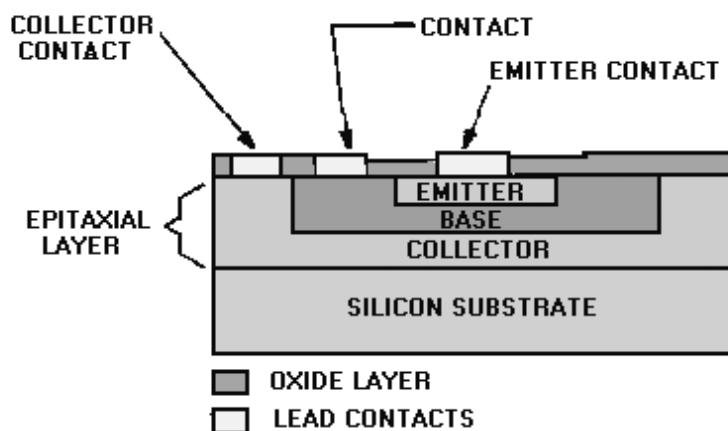

Figure 1-13.—Planar-epitaxial transistor.
**EPIТАXIAL METHOD.**—The EPITAXIAL process involves depositing a very thin layer of silicon to form a uniformly doped crystalline region (epitaxial layer) on the substrate. Components are produced by diffusing appropriate materials into the epitaxial layer in the same way as the planar-diffusion method. When planar-diffusion and epitaxial techniques are combined, the component characteristics are improved because of the uniformity of doping in the epitaxial layer. A cross section of a typical planar-epitaxial transistor is shown in figure 1-13. Note that the component parts do not penetrate the substrate as they did in the planar-diffused transistor.